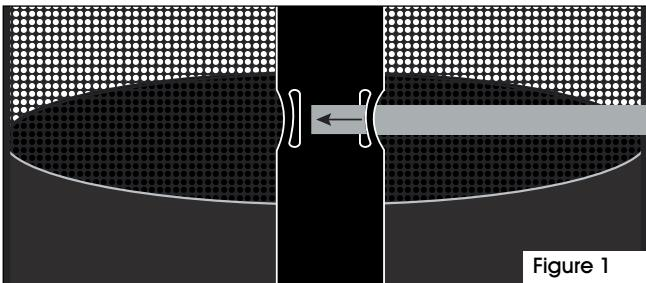

Figure 1
2. Insert the metal straps through the slots on the mounting bracket attached to the receptacle. (See Figure 1)